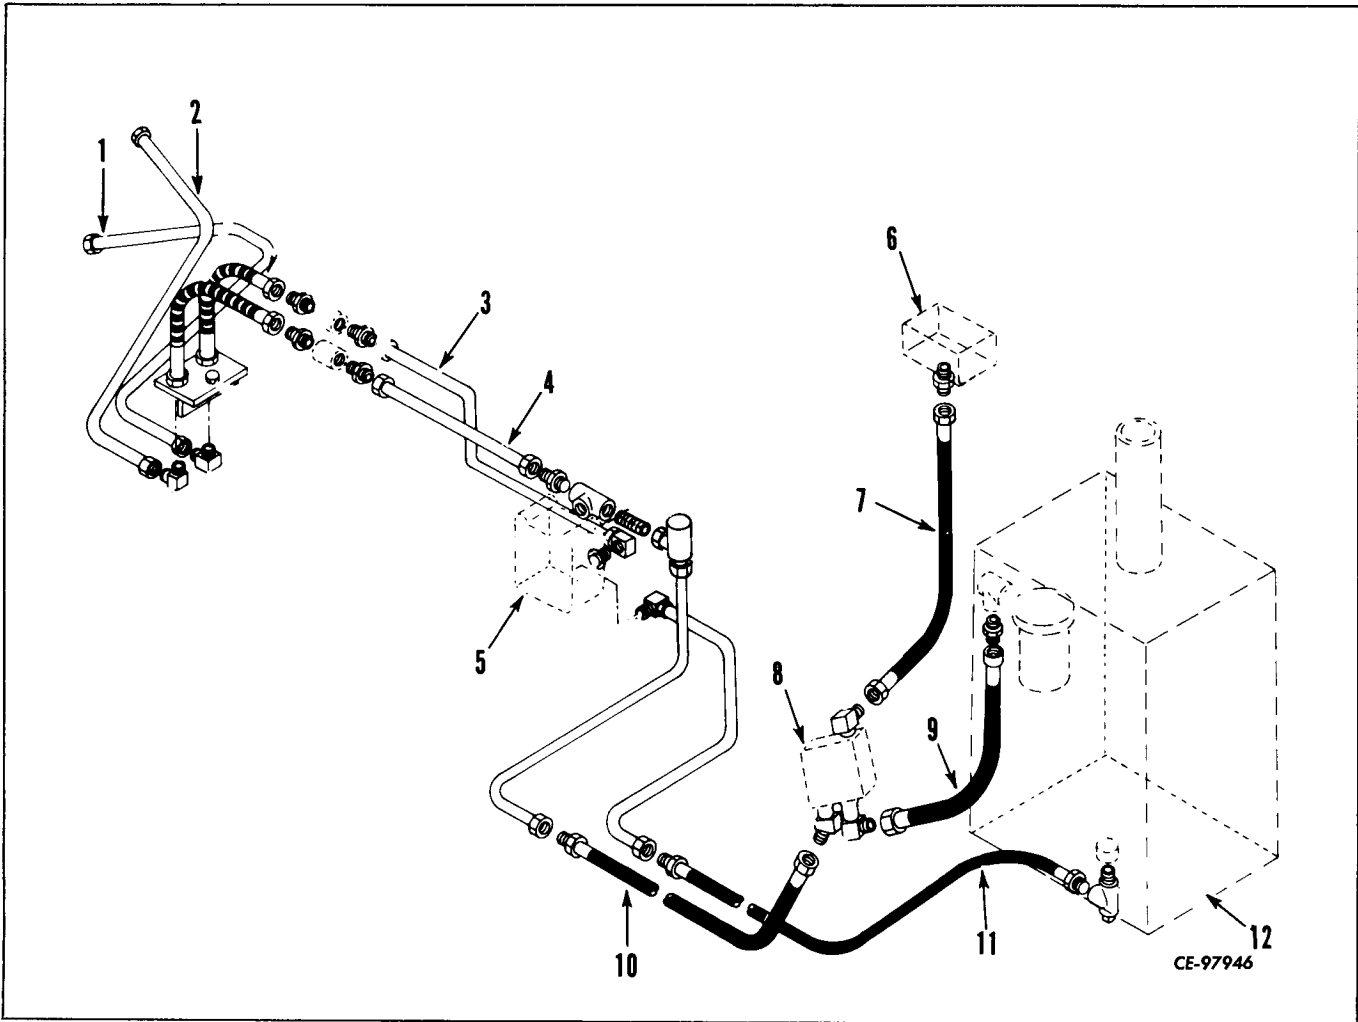

Figure 11-5
A flow control valve (8, Fig. 11-5) meters a set amount of oil to the winch control valve (5).